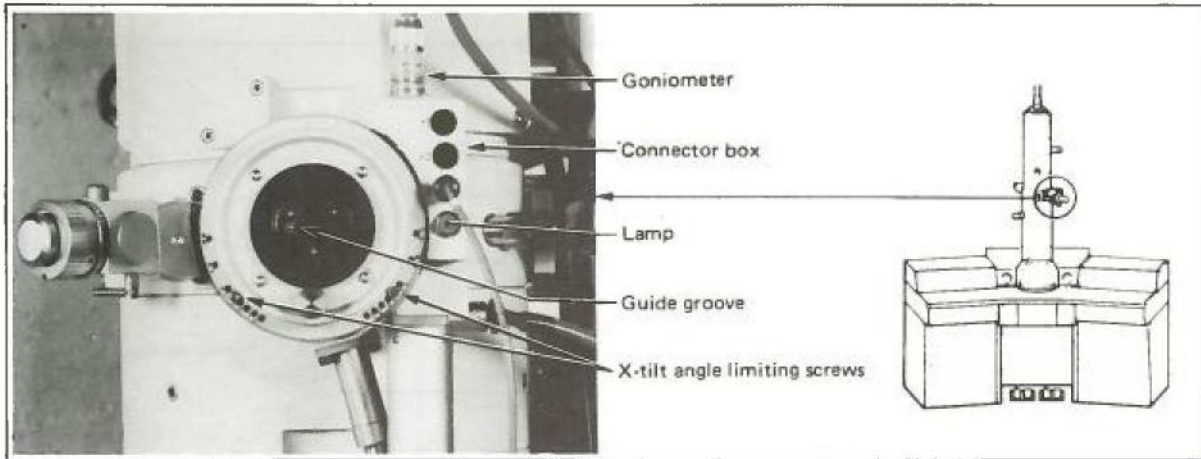

Fig. 4.6 Goniometer
- b. Set the two X-tilt angle limiting screws (Fig. 4.6) to 25° .
3. After checking that there is no dirt or dust on the specimen holder O-ring, align the specimen holder guide pin with the goniometer guide groove (Fig. 4.6), push the holder into the goniometer as far as it will go and hold it there until the connector box lamp (which lights up indicating the commencement of goniometer evacuation) goes out.